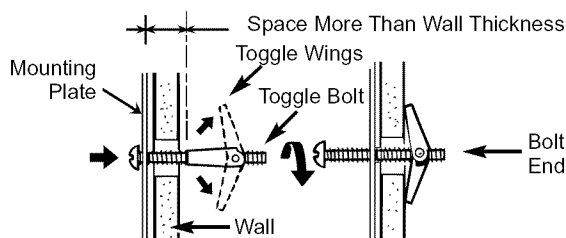

Figure 27
4. Attach the plate to the wall. To use spring toggle head bolts: Remove the toggle wings from the bolts. Insert the bolts in the mounting plate and replace the spring toggle heads to 3/4" past the bolt ends. Insert the spring toggle heads into the holes in the wall to mount the bracket. You may pull forward on the bracket to help in tightening the toggle bolts. Tighten all bolts. See **Figure 27**.